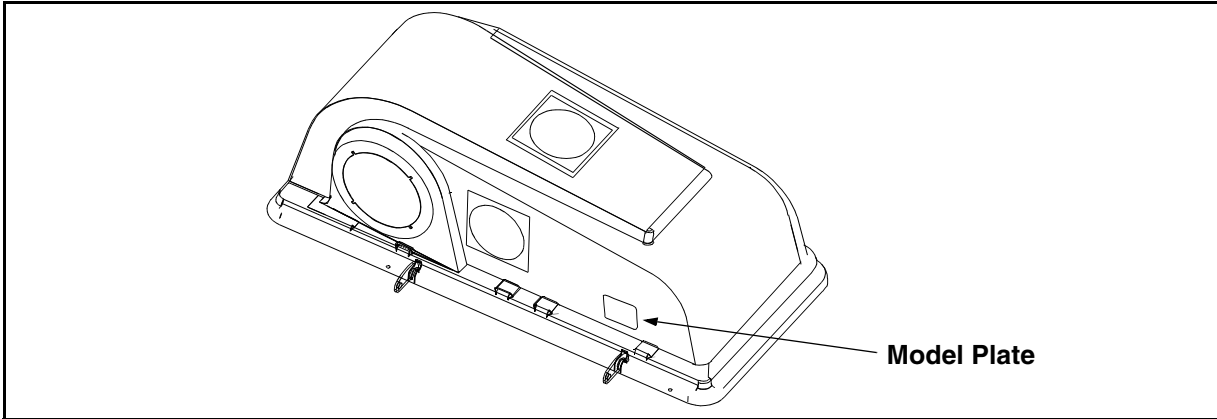

Figure 1
- You can locate it by looking on the front, left portion of the plastic grass catcher cover. See Figure 1.